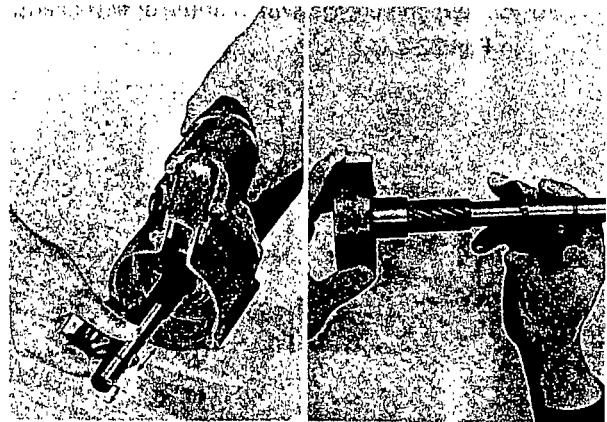

Fig. 22-15
2) Remove Adjuster Shim from the output shaft (Fig. 22-15 (A)).
(Ass.) Measure thrust gap (Fig. 22-15 (B)). Move it in the order of  $\leftrightarrow$  to check the gap. The thrust gap should be 0.1 ~ 0.3 mm (0.0039 ~ 0.0118 in).